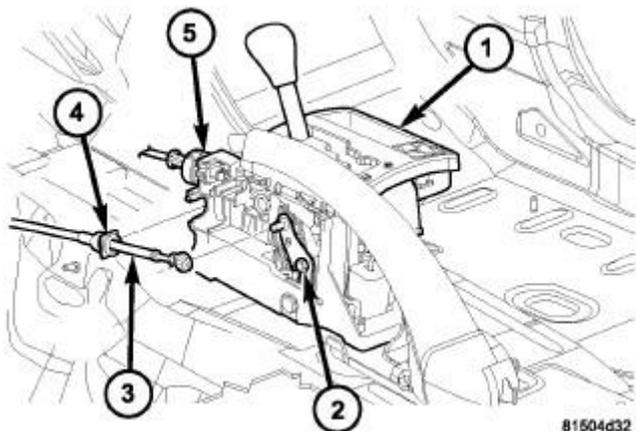

Fig. 171: Identifying Gearshift & Park Lock Cable At Shifter Assembly
The Brake Transmission Shifter/Ignition Interlock (BTSI) is a cable operated system that prevents the transmission gear shifter from being moved out of PARK without the proper driver inputs. The system also contains a solenoid that is integral to the shifter assembly. The solenoid works in conjunction with the park lock cable (5) to permit shifter movement out of PARK when the brake is depressed and prevents shifter movement into REVERSE unless a shift into REVERSE is permitted. Refer to **Fig. 171**.